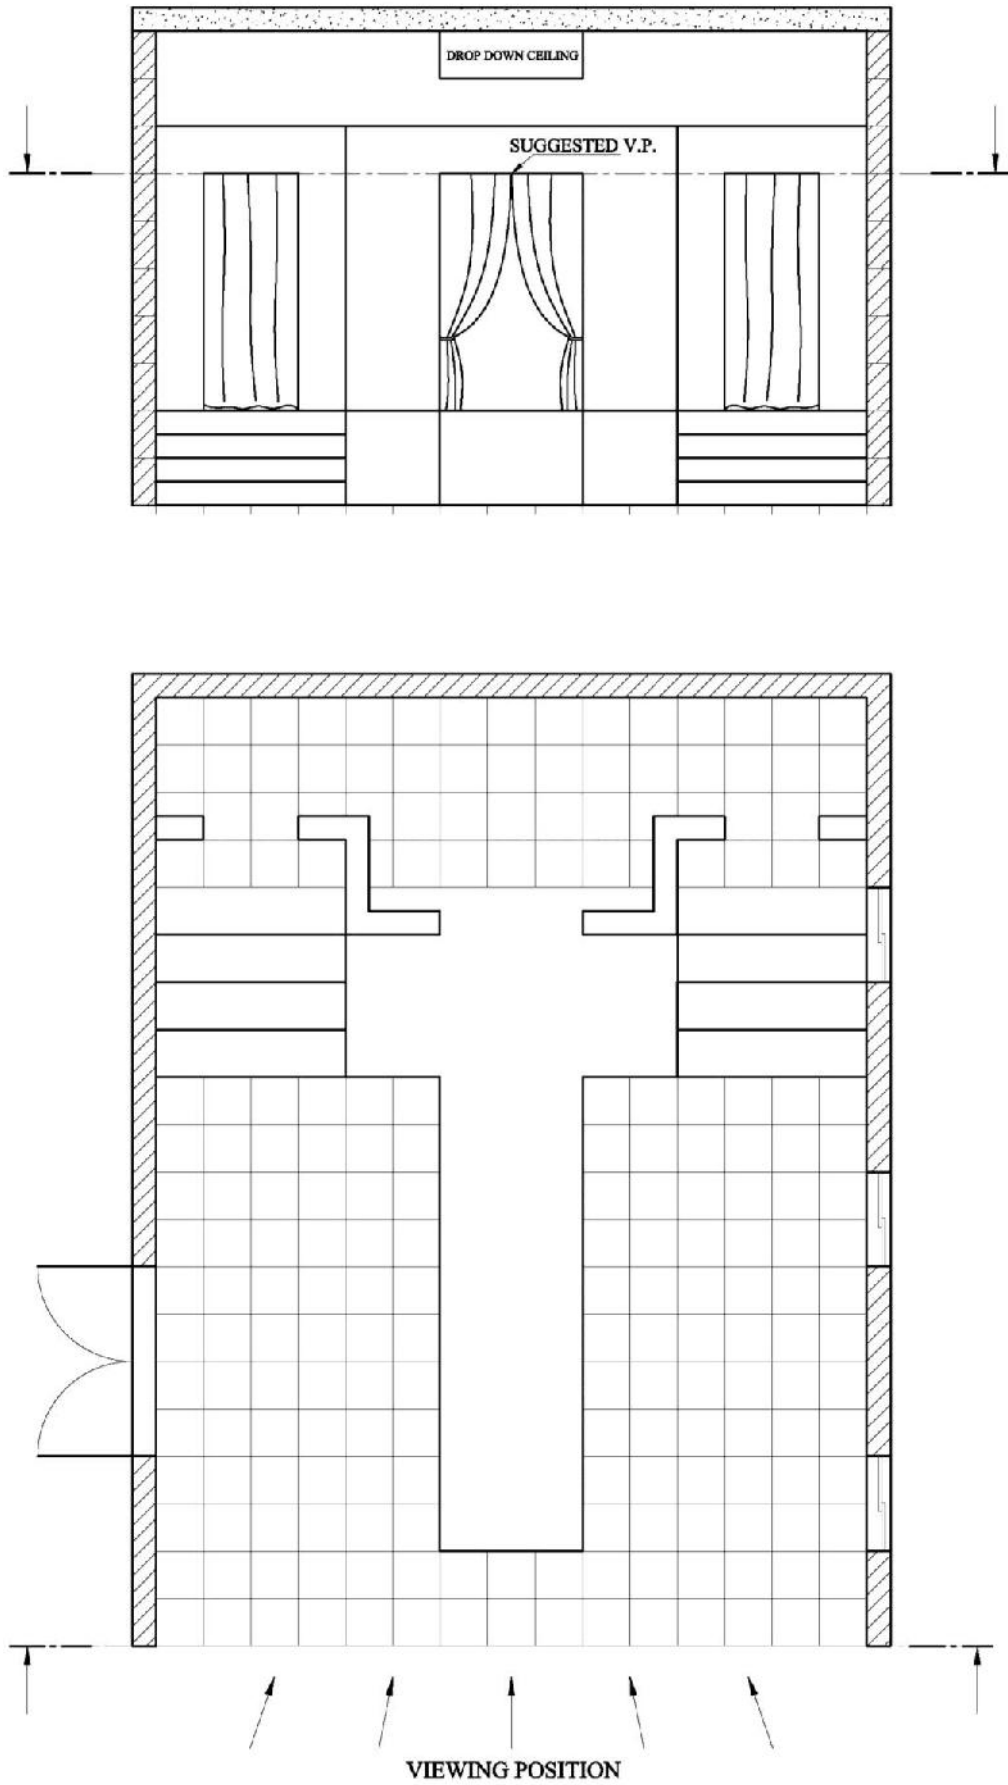

FIG. 9b
The plan and front view of the project are shown in Figure 9b.
- *The viewing direction is indicated by the arrows at the bottom of Figure 9b.*
- *The suggested vanishing point is indicated in Figure 9b.*